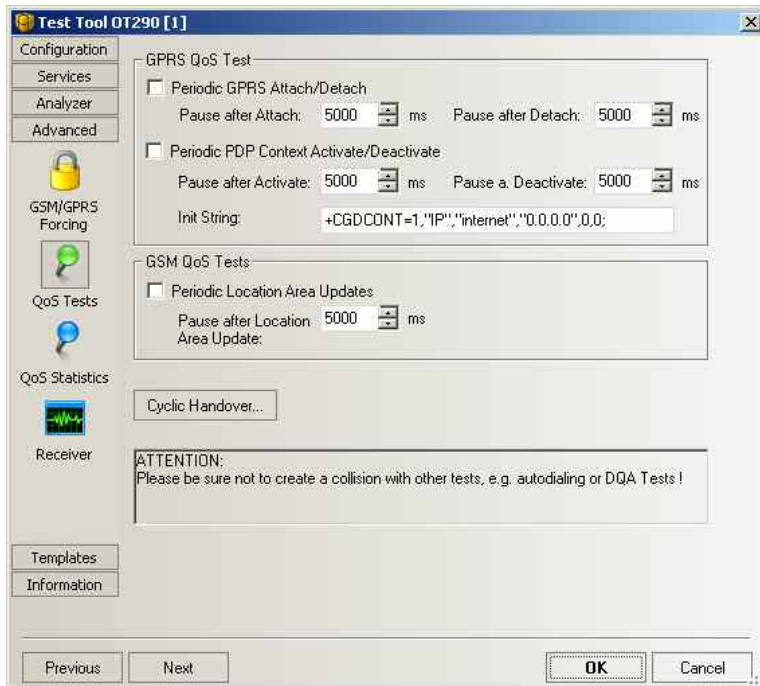

Fig. 6-30 Driver Configuration – QoS Tests tab (all drivers)
*PDP Context +CGDCONT* command, specifies PDP context parameter values for a PDP context identified by the (local) context identification parameter (first numeric parameter after “=”). The command is described in standard 3GPP TS 07.07 and is preset as shown in Fig. 6-30 above.